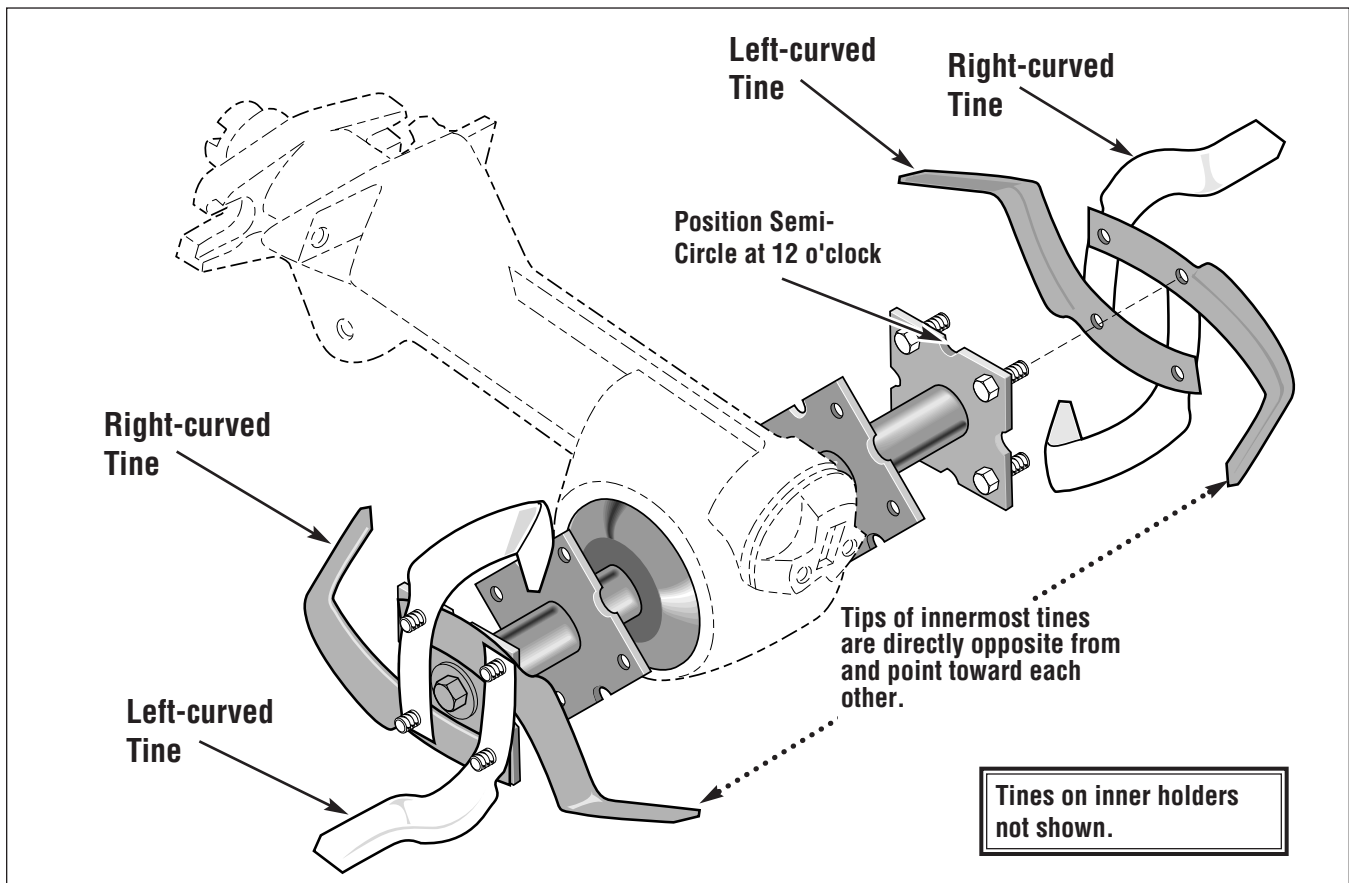

Figure 10: Installing tines on outer holders.
A. Place two **right-curved** tines (shown shaded in Figure 10) **opposite** each other on the previously installed bolts. Make sure that the tines are positioned as follows:
B. Place two **left-curved** tines (unshaded in Figure 10) **opposite** each other on the bolts, overlapping the tines installed in Step 5-A. Make sure that the tines are positioned as follows:
A. Place two **left-curved** tines (shown shaded in Figure 10) **opposite** each other on the previously installed bolts. Make sure that the tines are positioned as follows:
B. Place two **right-curved** tines (shown unshaded in Figure 10) **opposite** each other on the bolts, overlapping the tines positioned in Step 6-A. Make sure that the tines are positioned as follows: